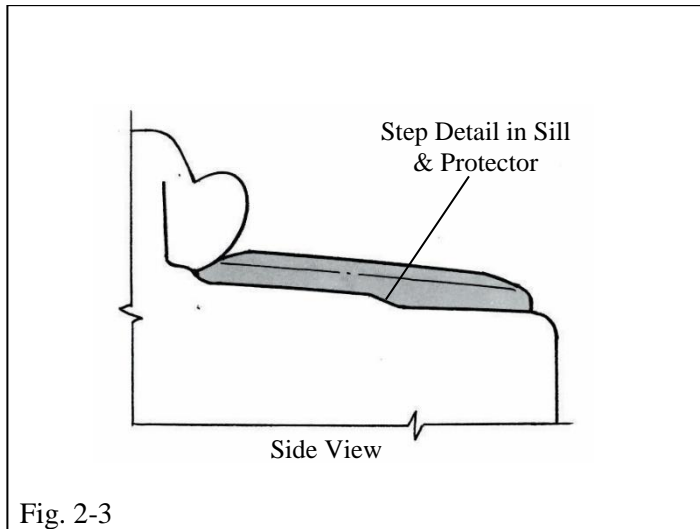
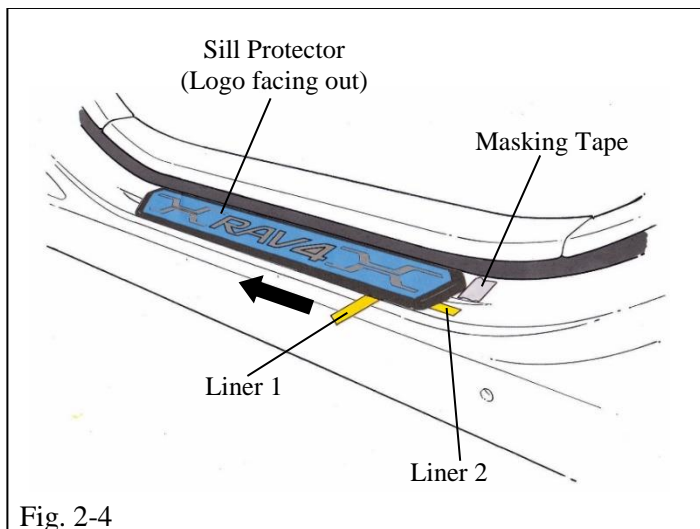

Fig. 2-3
Fig. 2-4
- d. Position protector and ensure end step detail matches step detail in sill and is touching edge of masking tape and liner 1 is facing outwards. (Fig. 2-3 & Fig. 2-4)
NOTE: Logo must be facing outwards as shown. (Fig.2-4)
- e. While holding protector in position tack down corner of liner 1. (Fig 2-4)
- f. While holding protector in position and liner 1 facing under and outward, pull in direction of arrow to remove tape liner 1. (Fig.2-4)